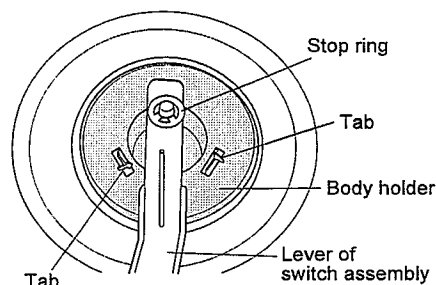

Fig. C-3
- the thermostat rod. (Fig. C-3)